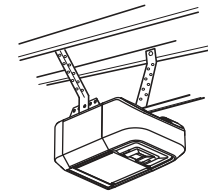

FIGURE 2
Hanging your garage door opener will vary depending on your garage. Two representative installations are shown. Yours may be different. Hanging brackets should be angled (Figure 1) to provide rigid support. On finished ceilings (Figure 2), attach a sturdy metal bracket to structural supports before installing the opener. This bracket and fastening hardware are not provided.
- Alternately, use two 5/16"-18x2" bolts, lock washers and nuts (not provided). (Figure 2)